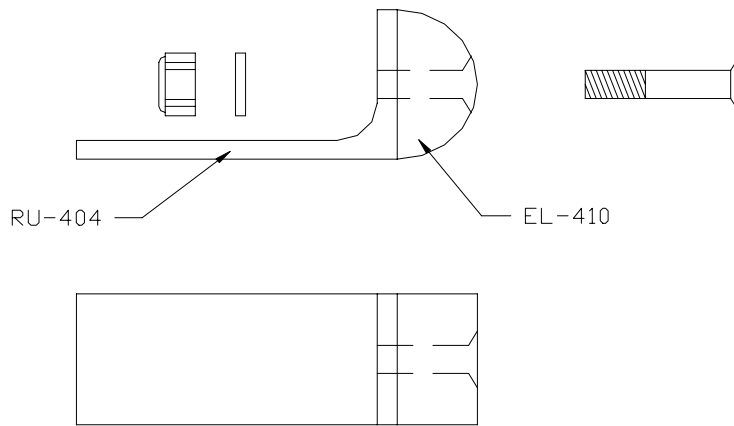

FIGURE 38
- 123) Bolt together as in figure 38.